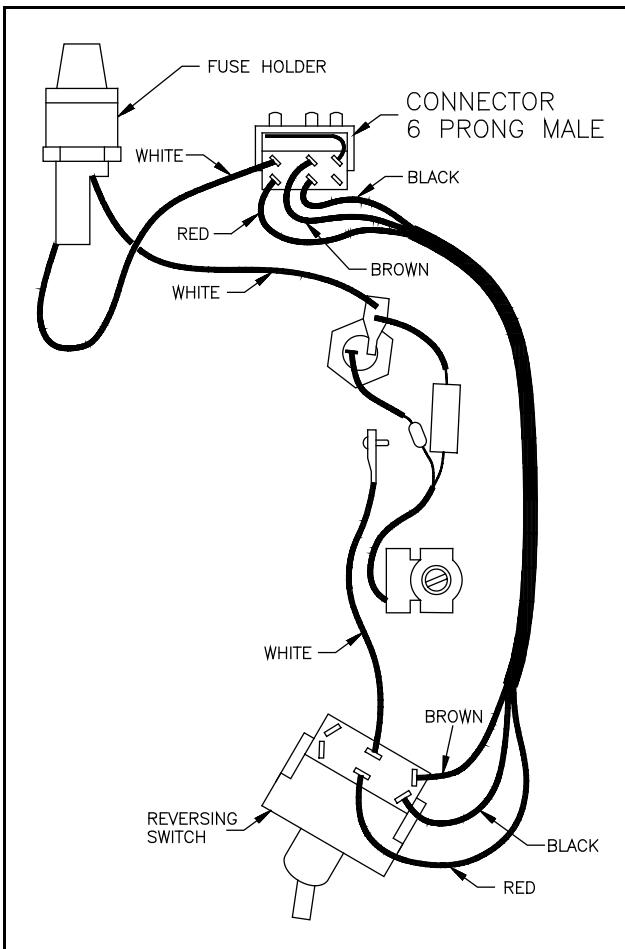
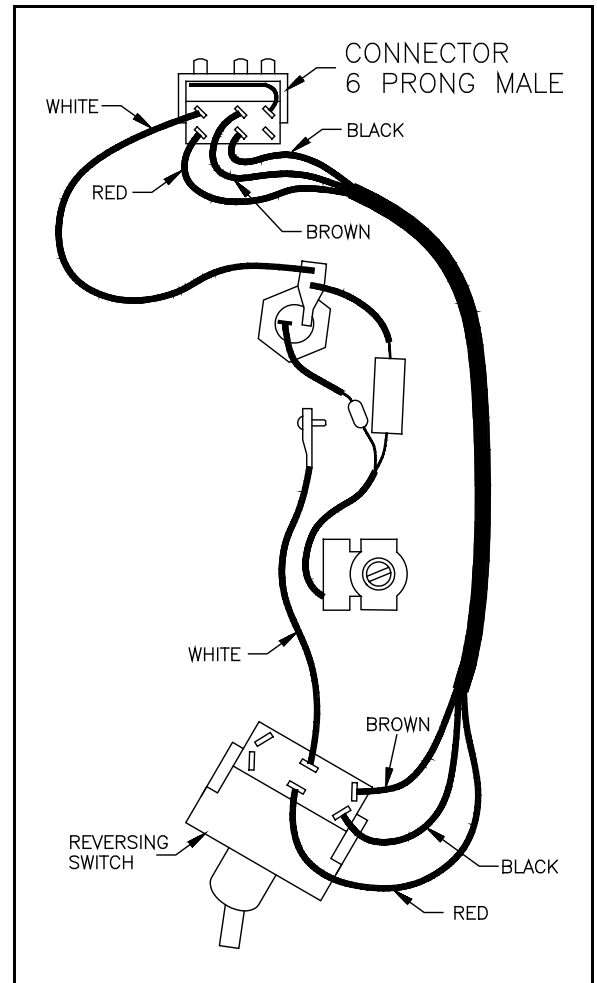

Figure 2. Wiring diagram
Figure 3. Wiring diagram - with no fuse
- 3.4 Disconnect the white wire at the fuse holder. See Figure 2. (If the foot control does not have a fuse, unsolder the white wire from the terminal on the six prong plug. See Figure 3.)
- 4.3 Connect the red, brown and black wires to the correct terminals on the reversing switch. See Figure 2.
- 4.4 Connect the white wire to the terminal on the end of the fuse holder. Make sure the white wires are connected to the fuse holder as illustrated in Figure 2.
(If the foot control does not have a fuse, unsolder the white wire with the connector from the new six prong plug. Solder the white wire from the triac to the terminal on the six prong plug. See Figure 3.)